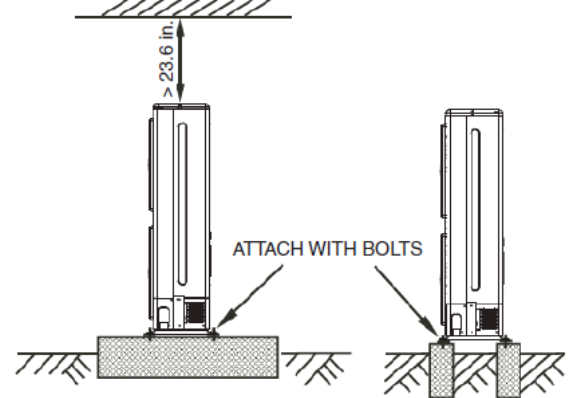

Fig. 6 —Concrete Base
- Ensure that the base is level and that the weight of the unit is distributed evenly. See Fig. 6 below for reference.